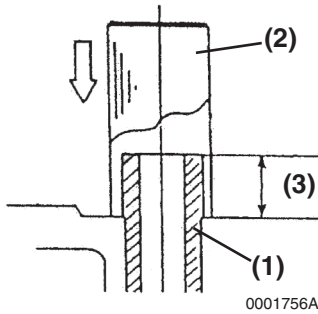

Figure 6-63
3. Finish installing the valve guides (Figure 6-63, (1)) into the cylinder head to the proper height (Figure 6-63, (3)) using the valve guide installation tool (Figure 6-63, (2)). See *Intake / Exhaust Valve and Guide on page 6-7*.